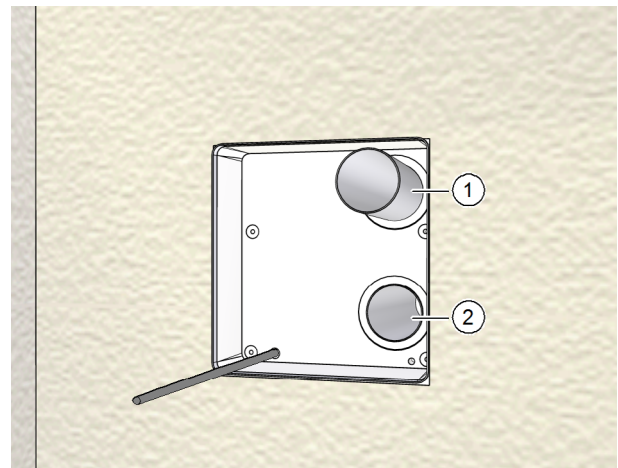

Fig. 22: Cutting ventilation pipes to length
- ▶ Push the two ventilation pipes (item 1 in Fig. 22) into the openings in the wall box until they end flush (item 2 in Fig. 22).